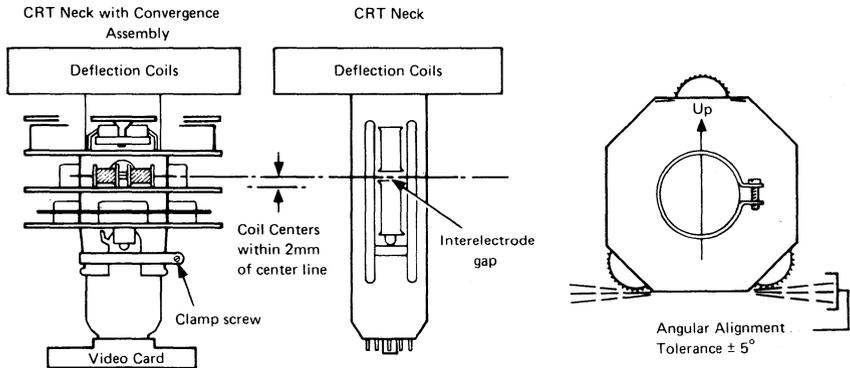

Figure 4-8. Convergence/Purity Coil Assembly
14. Slide the convergence coil assembly onto the CRT neck and position the assembly over the interelectrode gap as shown in Figure 4-8. Adjust the angular alignment to the stated tolerance. Use the machine base as a reference. *Note: If the coil assembly is too far forward there will be too little sensitivity, if it is too far to the rear, there will be too much sensitivity.*